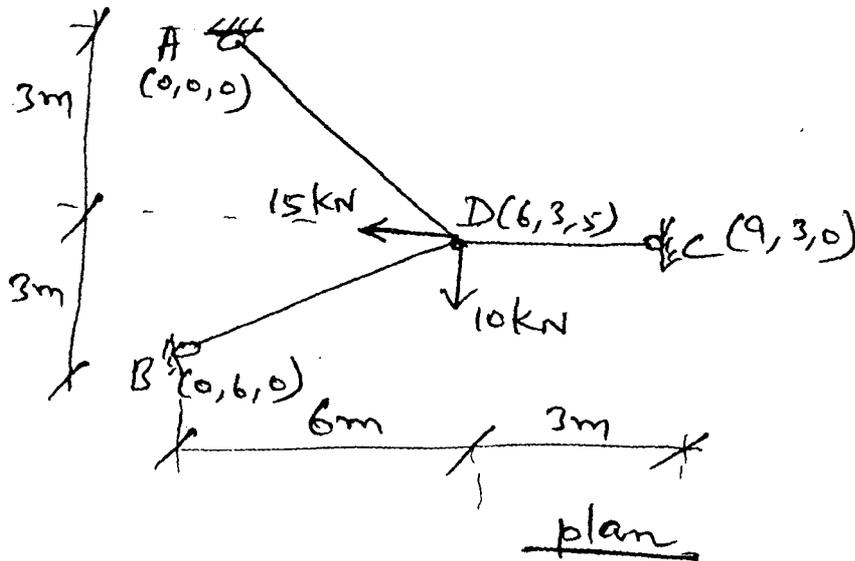

Fig. 14 (a)
4. (a) Determine the forces in the members of the space truss shown in the fig. 14(a) by tension coefficient method  $A, B$  and  $C$  are in the same horizontal plane and  $D$  is 5 m above the horizontal plane.